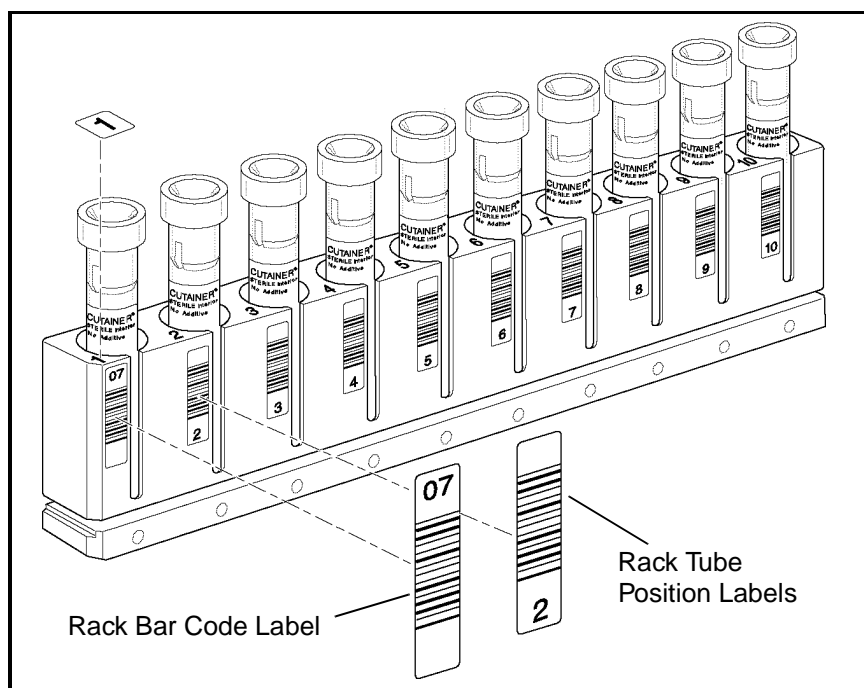

Figure 2.7: Tube Rack Showing Label Placement Locations
6. Verify that each rack has a bar code label in position 1 and that the label is on the same side as the open slots. Refer to Figure 2.7 for proper label placement and alignment.